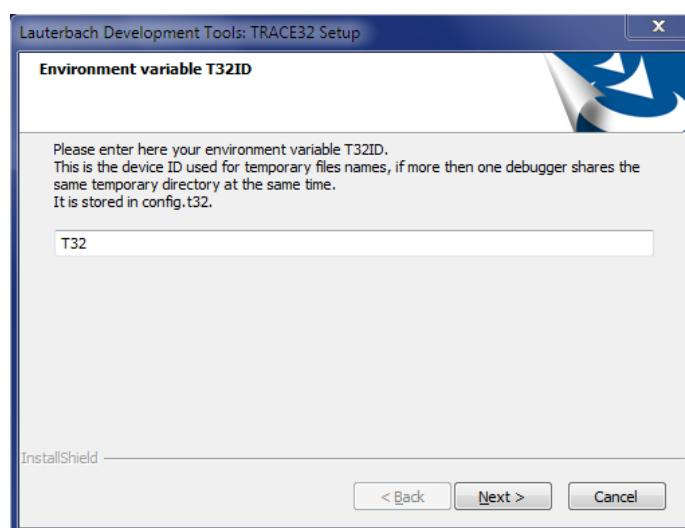

Figure 5.31: **Environment variable T32ID** page
11. On the **Environment variable T32ID** page, choose the default value **T32** (see Figure 5.31 on the next page).